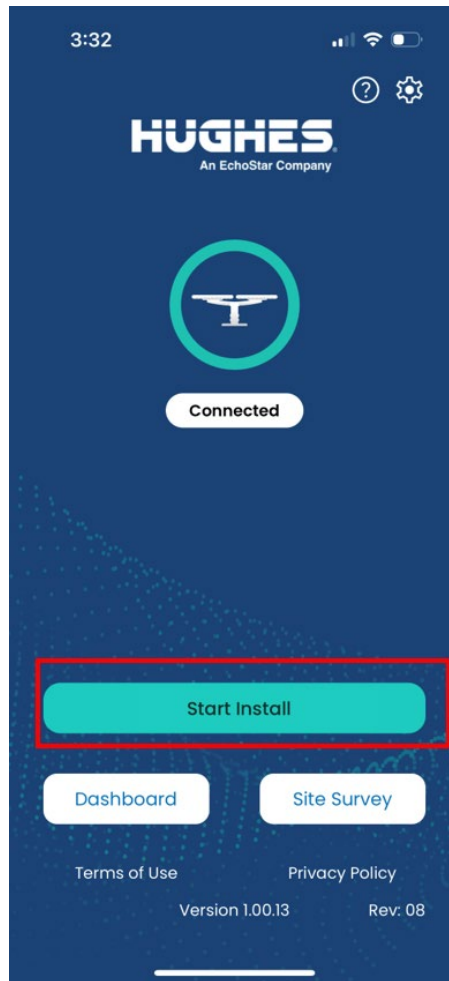

Figure 86: Start Install button to start fresh commissioning
3. Once the landing screen is displayed, click **Start Install**, as shown in Figure 86.